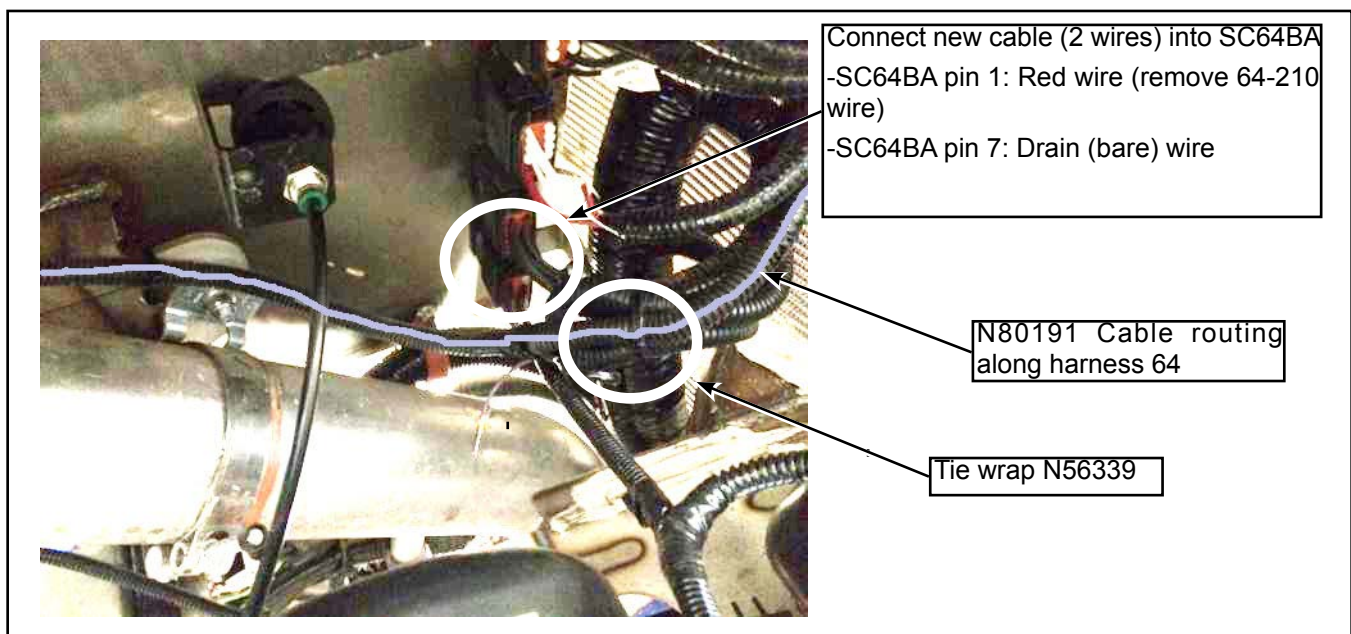

Figure 6 - N80191 Cable Routing Along Harness 64
- 1.7. Connect the two wires of segments C and D from new cable into SC64BA. Remove wire 64-210 from pin 1 and connect the red wire. Connect the drain wire to pin 7 (see Figure 6).